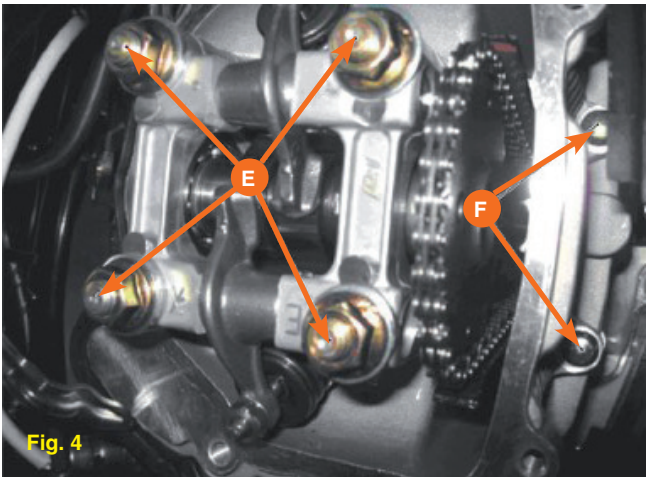

Fig. 4
- Remove the two M6 screws (F) (Fig. 4) that fix the head to the crankcase.
- Loosen the four M8 nuts (E) (Fig. 4) by half a turn.